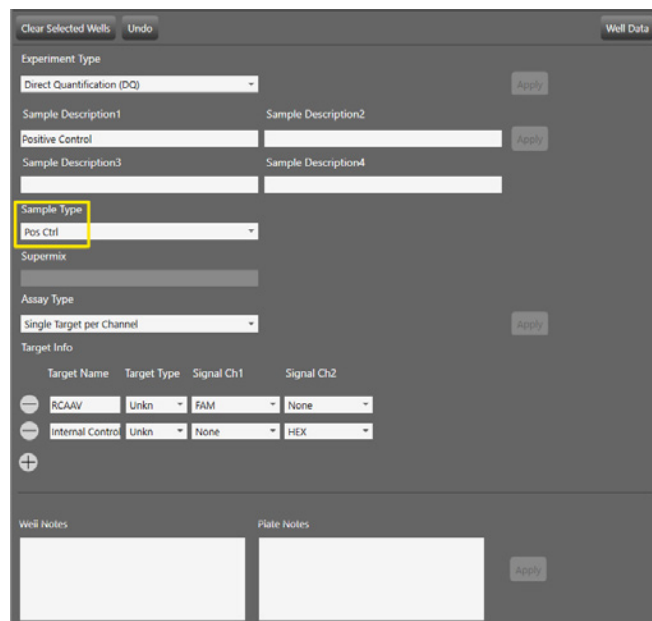

Fig. 3. Example of plate setup in the Plate Editor screen. Positive control wells should have the sample type Pos Ctrl (yellow rectangle).
Press Apply and then Save the template. On the Run Setup screen, name the plate and select the supermix. Press Start Run. See Figure 3 for an example.
- Move to the Edit tab and designate the following (see Figure 3 for details):
- Experiment Type: Direct Quantification (DQ)
1. Ensure that only the positive control wells are marked as the sample type Pos Ctrl. If necessary, navigate to the Plate Editor tab and select the positive control wells. Under Sample Type, use the dropdown menu to select Pos Ctrl and click Apply. See Figure 3 for an example of the Plate Editor screen.